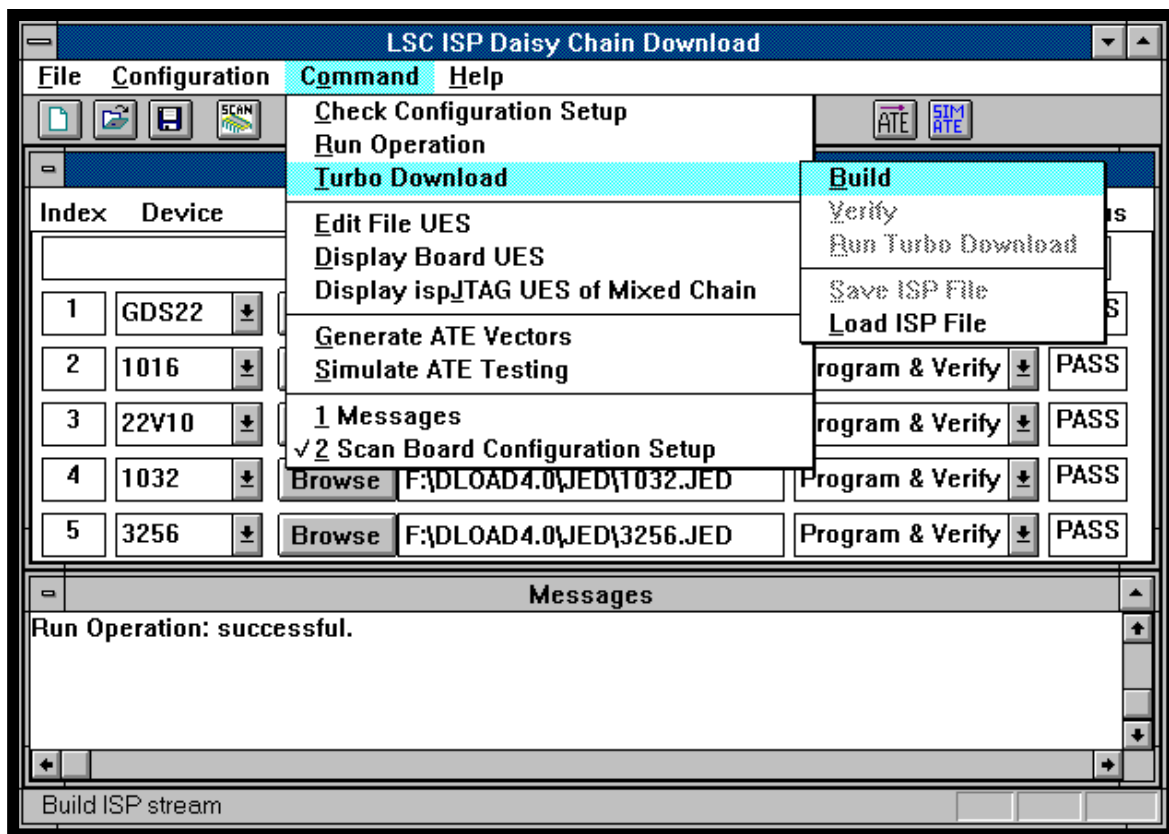

Figure 3-13. **Configuration** ⇒ **Turbo Download** ⇒ **Build** Menu Option
1. Select **Command** ⇒ **Turbo Download** ⇒ **Build** or the **Turbo Build** icon from the ISP Daisy Chain Download menu (Figure 3-13).